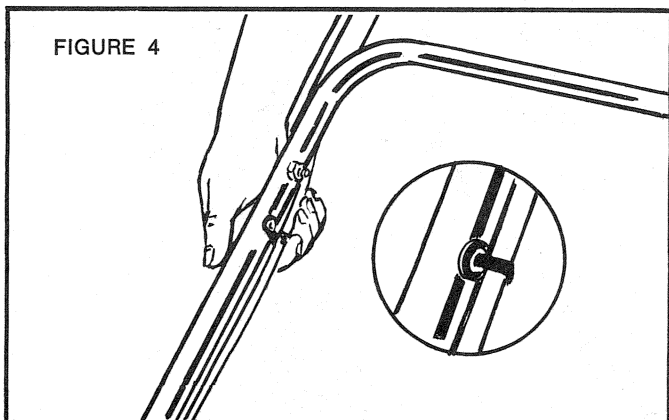

FIGURE 4
4. Plastic straps hold cord close to handle (Figure 4). Bend each strap around cord and push peg at outer end of strap into hole in inside of strap where it is fastened to handle.